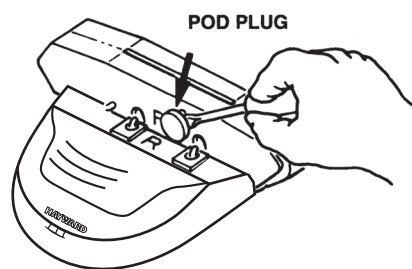

Figure 9
1. **Check the condition of the “shoes, wings and flaps” periodically.** The shoes and wings have wear indicators on their sides and should be checked occasionally to determine if they need replacing. The shoe wear indicator is a line on the side of the shoe that appears as a difference in texture. When this texture difference is no longer visible at the bottom of the shoe when viewed from either side, the shoes must be changed (see Figure 8). Also on the side, the wing wear indicator is a horizontal line which has three (3) vertical lines above it. When you can no longer see the horizontal line, the wings must be changed (see Figure 9). The Hayward Tune-Up Kit is available from your dealer. Shoes, wings and flaps may also be purchased separately.
- a) Using a screwdriver, remove the plugs from both pods (see Figure 9).